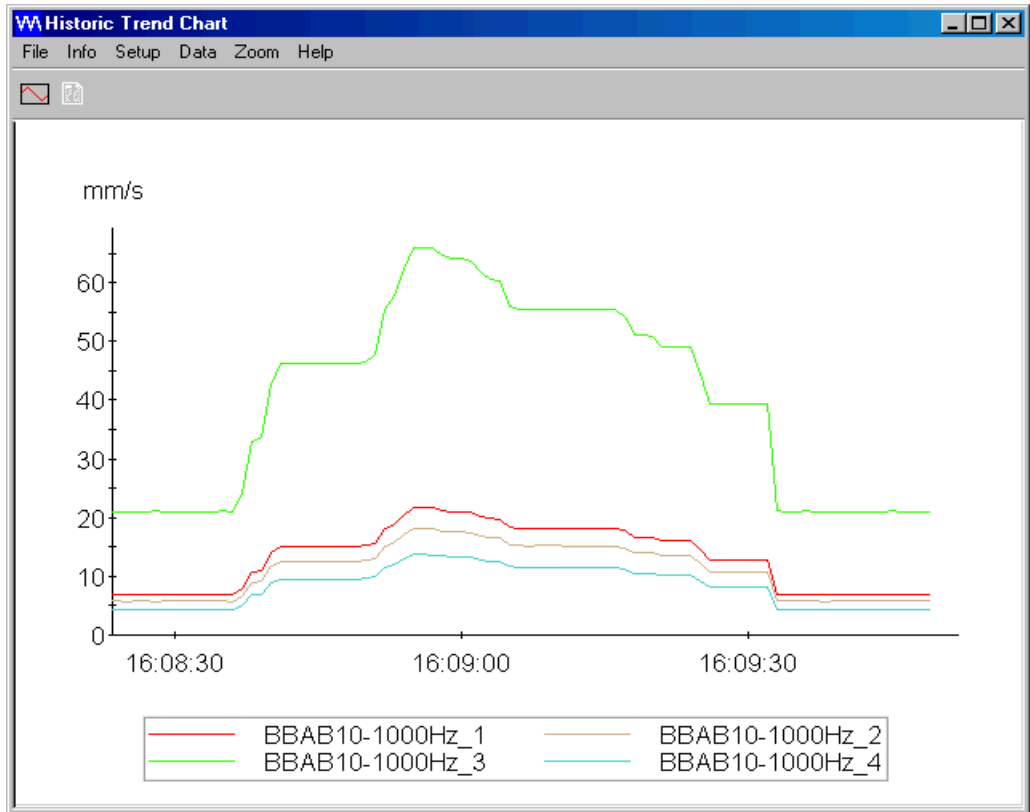

Figure 8-3: Typical Historic Trend Chart window
- 4- Click the **Display** button to obtain the Historic Trend Chart window (Figure 8-3).